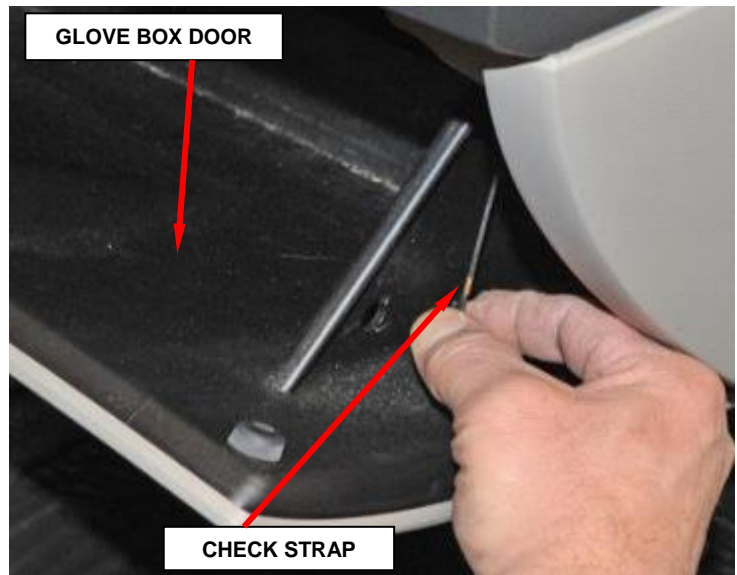

Figure 22 – Check Strap
- a. Remove the check strap from the right side of the glove box (Figure 22).